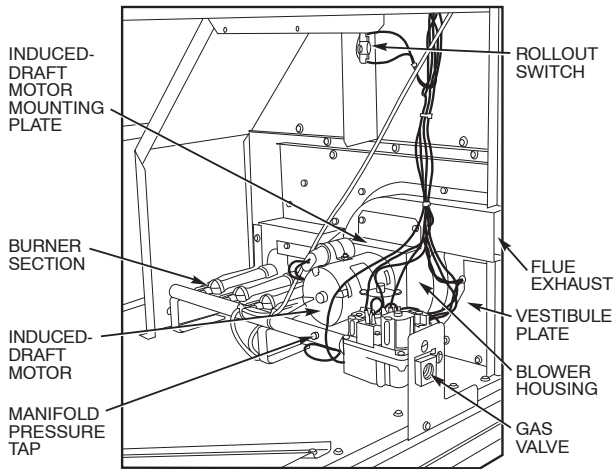

Fig. 12 - Burner Section Details
The heat exchanger system consists of a gas valve feeding multiple inshot burners off a manifold. The burners fire into matching primary tubes. The primary tubes discharge into combustion plenum where gas flow converges into secondary tubes. The secondary tubes exit into the induced draft fan wheel inlet. The induced fan wheel discharges into a flue passage and flue gases exit out a flue hood on the side of the unit. The induced draft fan motor includes a Hall Effect sensor circuit that establishes wheel speed via the Integrated Ignition Control (IGC) board. Safety switches include a Rollout Switch (at the top of the burner compartment) and a limit switch (mounted through the fan deck, over the tubes). (See Fig. 12 and 13.)
7. Remove the 2 screws that attach the burner rack to the vestibule plate (Fig. 12).